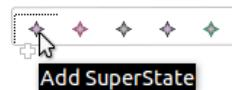

Figure 4.4: Pop up in the Canvas
- **States and GlobalCodeBoxes** can be modeled by simply hovering the mouse over the canvas to bring the container shown in Figure 4.4 to front and selecting the desired statemachine element.